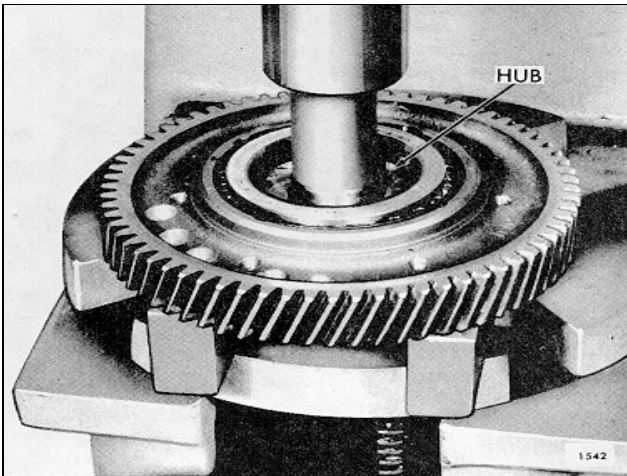

Fig. 2 - Pressing Hub Out of Bearing
3. Place the idler gear and bearing assembly in an arbor press with the bearing cone or inner race supported on steel blocks as shown in Fig. 2. While rotating the gear assembly, press the hub out of the bearing. Remove the gear assembly from the arbor press and remove the bearing cones and spacer.